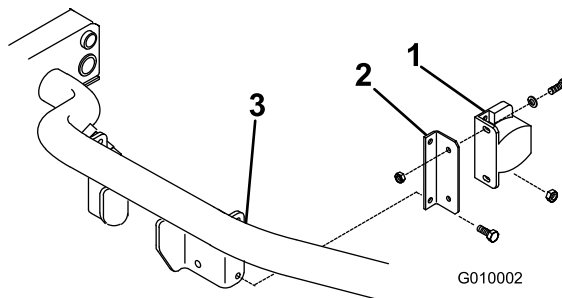

Figure 1
- Remove the (6) screws and nuts securing the bumper to the vehicle frame and remove the bumper.
- Remove the (7) screws securing the front hood to the vehicle frame.
5. Mount the backup alarm to the mounting bracket with (2) 1/4 x 3/4 inch flange head capscrews, flat washers and 1/4 inch flange nuts. Position the fasteners as shown in Figure 1.
6. Secure the mounting bracket to the rear frame tube with (2) 1/4 x 3/4 inch flange head capscrews and 1/4 inch flange nuts. Position the fasteners as shown in Figure 1.